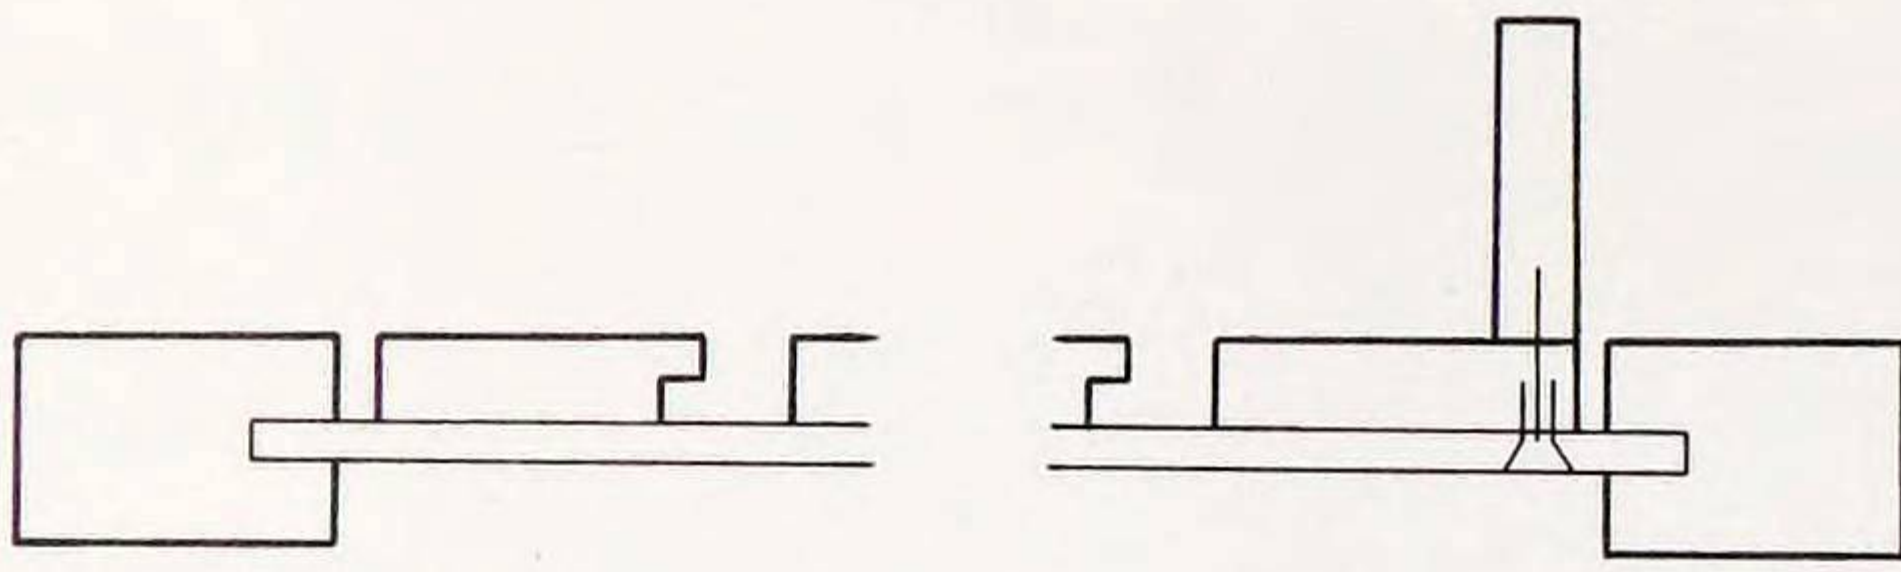
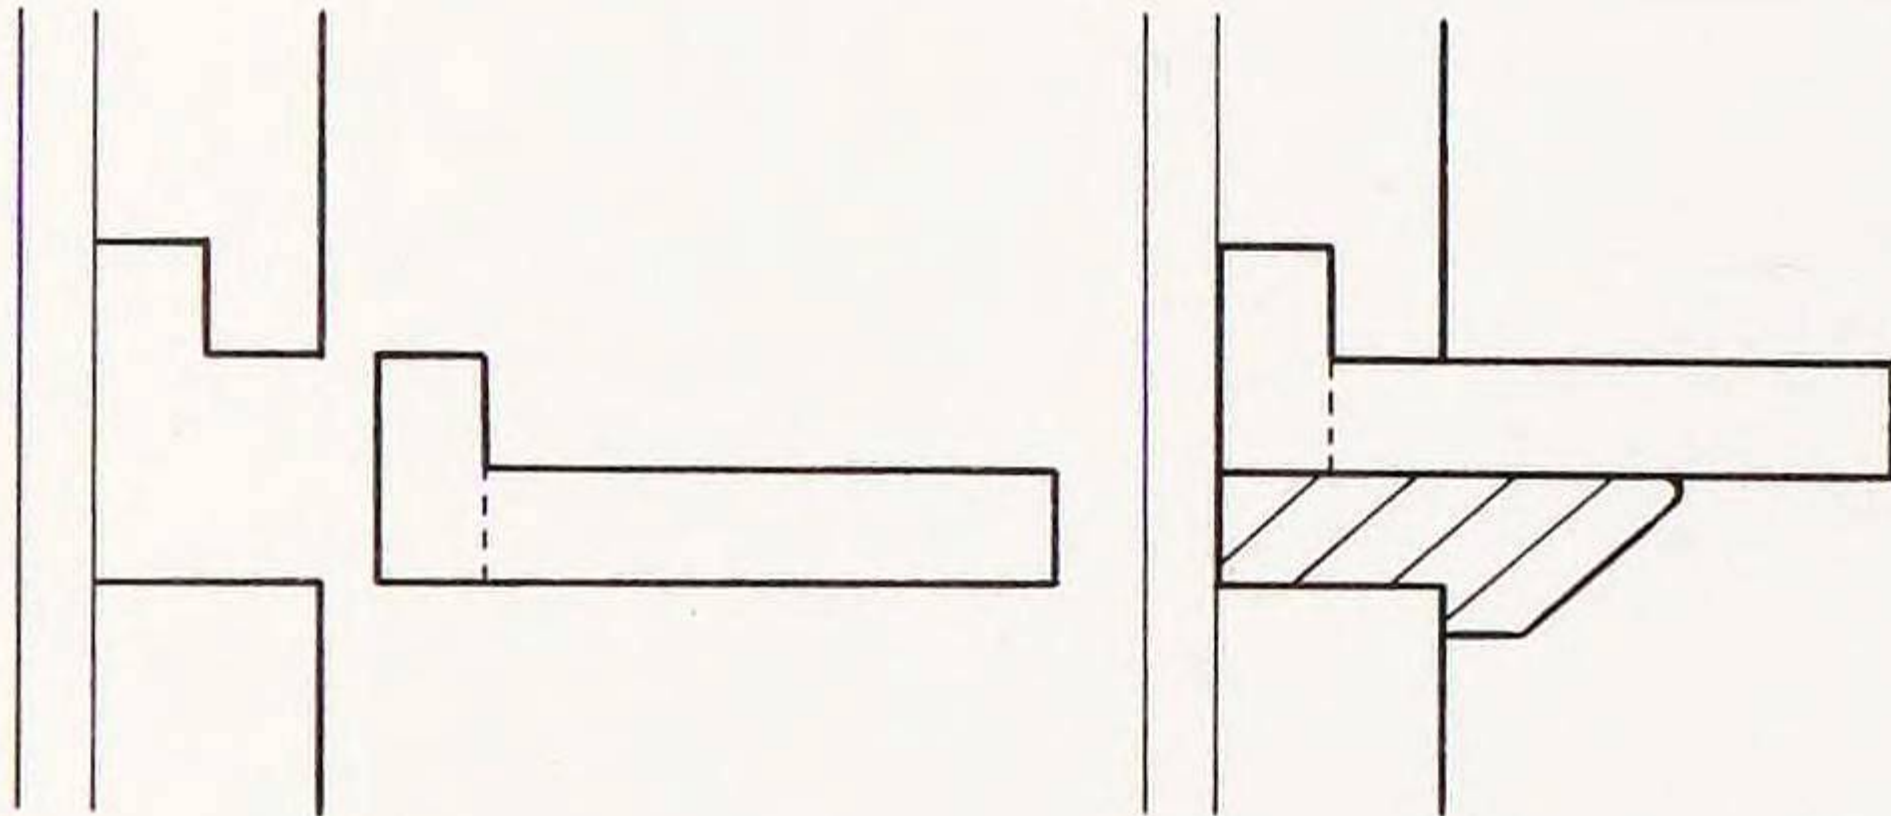

Fig. 3 Fixing horizontal slats
Fig. 4 Making the shelves
3. Make the horizontal slats and fix them carefully and accurately into place with glue and screws from the back. You may want to use natural timber, apply a paint finish or cover them with fabric. Note that the glazed front will fit around all four edges (Fig. 3).
4. When the horizontal slats are in position, make the shelves. The lip on the shelf back could be added to the back top face, or it could be a complete lipping of the back of the shelf. Note the wedge underneath the shelf which ensures that it stays in position. Check that all your shelves fit in the slots and finally plane the support wedges to fit (Fig. 4). There is also a lower fitted shelf, glued and screwed into place from behind (shown in Fig. 3).